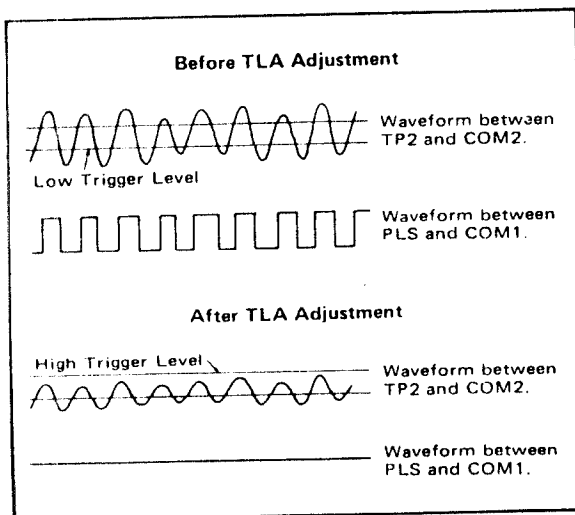

Figure 6-4. TLA Adjustment (at Zero Flow).
- If the pipe line is still vibrating after the fluid flow stops, gradually turn the TLA adjustment clockwise until output is 0%. If an oscilloscope is provided, connect it between terminals PLS and COM1. Turn the TLA adjustment clockwise until the pulse waveform (Figure 6-4) disappears from the oscilloscope screen.